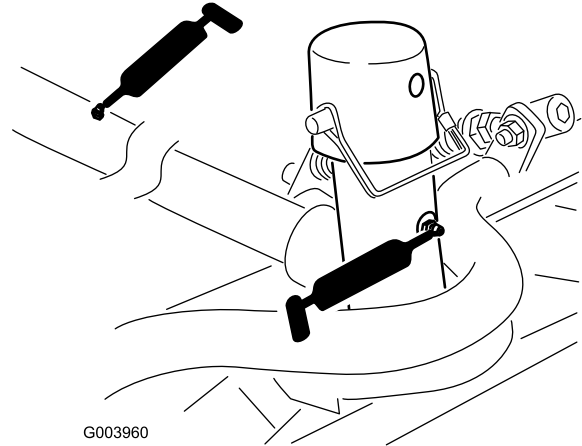

Figure 68
- Cutting-unit carrier-frame and pivot (2 each) (Figure 68)